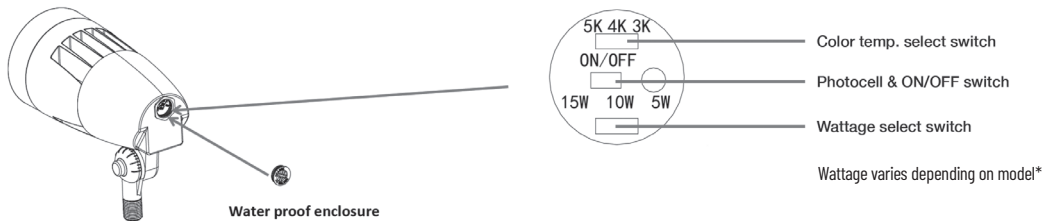

Fig. 1
2. According to the wattage, photocell, and color (CCT) selectable label shown in Fig. 1, please toggle the DIP switch to select the corresponding wattage and color (CCT).